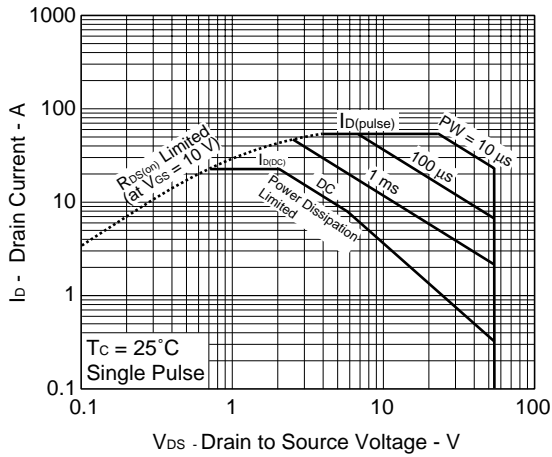

Figure4. SINGLE AVALANCHE ENERGY DERATING FACTOR
2. Starting $T_{ch} = 25^\circ\text{C}$, $R_G = 25 \Omega$, $V_{GS} = 20 \text{ V} \rightarrow 0 \text{ V}$ (See Figure 4.)